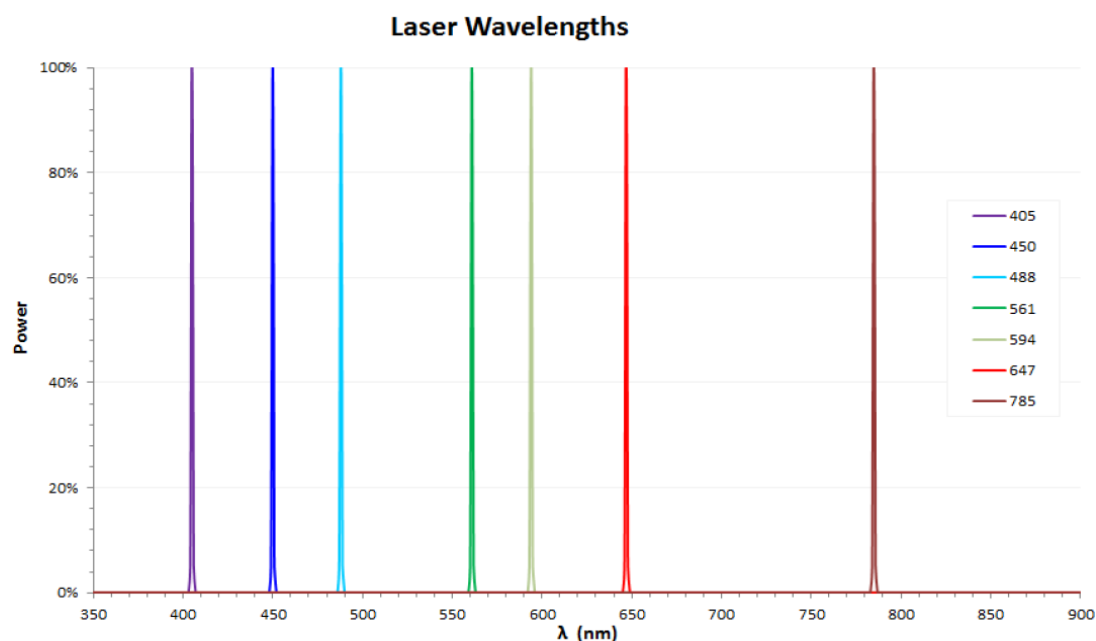
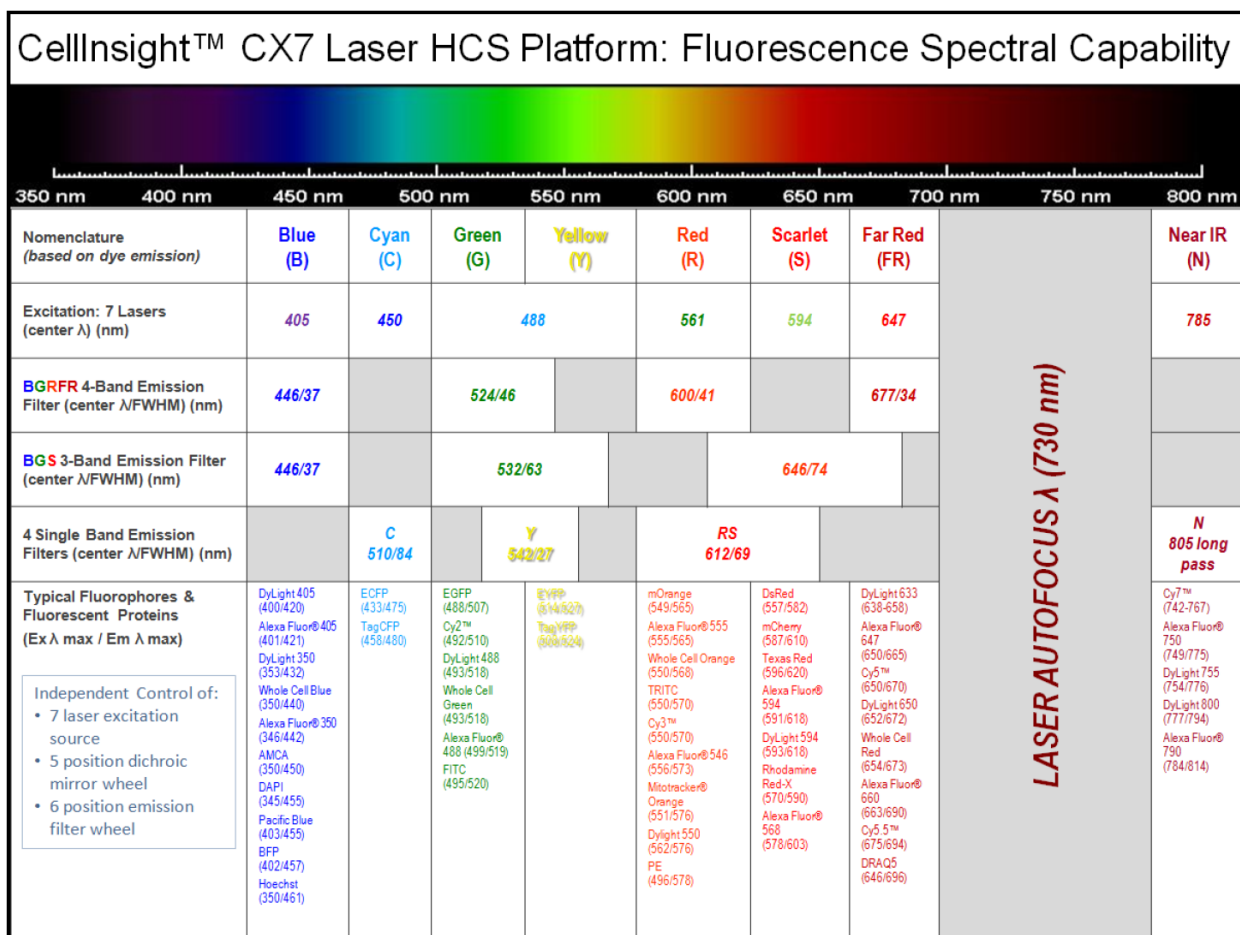

Figure 42 Laser wavelengths from the 7-color excitation laser light source
Figure 43 7-color basic spectral capability of the CellInsight™ CX7 LZR Pro HCS Platform
The instrument has a 7-color light source for fluorescence excitation containing seven separate continuous-wave solid-state lasers. The excitation light source has been purposely built for these seven colors, which range from the ultra violet (UV) to the near infra-red (NIR). Figure 42 shows the seven wavelengths emitted from the laser light source (the spectral power output for each laser line is normalized to 100% in this figure). These seven colors can excite a broad range of fluorescent probes, giving you many options and flexibility in choosing fluorescent dyes (Figure 43).
The nomenclature convention that is used to describe the different excitation-dichroic mirror-emission filter combinations is based on the fluorophore emission colors that this system supports, i.e., blue (B), cyan (C), green (G), yellow (Y), red (R), scarlet (S), far red (FR), and near-infra-red (N). The wavelength ranges of these colors are shown in Figure 43. The naming convention specifies the laser wavelength, dichroic mirror, and emission filter combination. For example, **405LZR_BGRFR_BGRFR**, refers to exciting the sample with the 405 nm laser line, and using the quad-band dichroic mirror along with the quad-band emission filter that transmits blue (B), green (G), red (R), and far red (FR) light. Likewise, **450LZR_C_Y** refers to exciting the sample with the 450 nm laser line, and using the single-band dichroic mirror that transmits cyan (C) light and emission filter that transmits yellow (Y) light. All filter combinations that work (i.e., do not cause bleed through of excitation light) are available, in either the basic or advanced spectral configurations.
Figure 43 summarizes this instrument's basic spectral capability; where for each of the seven colors, it shows the excitation wavelength, the emission filter transmission band for that color, and common fluorescent probes for that color channel. Note that the fluorescent probes, proteins and fluorophores are a representative set used as an example. There are many other fluorescent probes that could be used. The specific excitation wavelength, dichroic mirror, and emission filter combinations that are available in the basic configuration, and that enable the imaging of the range of fluorophores shown in Figure 43, is laid out in Figure 44. Figure 45-Figure 47 show the normalized excitation wavelengths and the transmission traces of all the basic filter combinations.